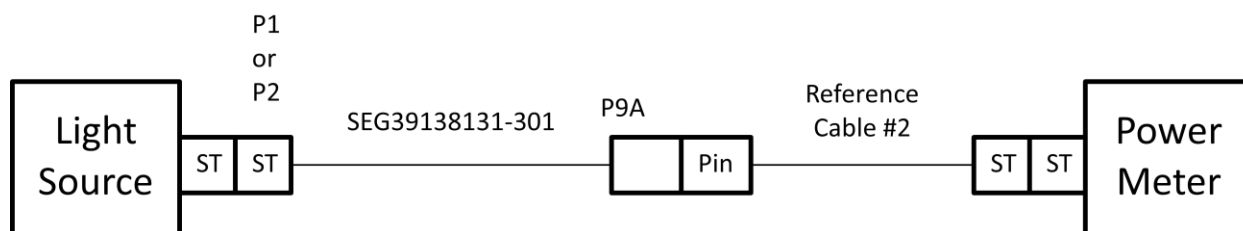

Figure 3. Insertion Loss Test P1/P2 to P9A
3.1 Configure test setup per Figure 3.